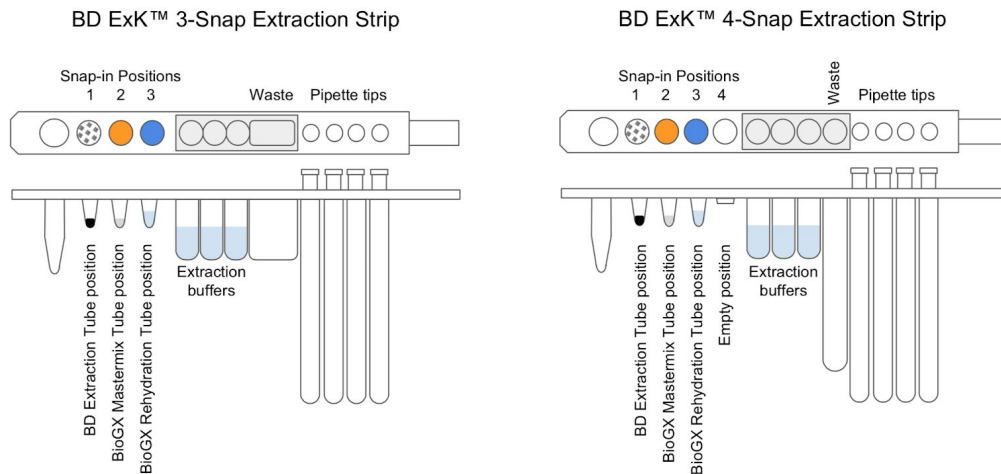

Figure 1 – Diagram of BD MAX™ ExK™ 3-snap and 4-snap Unitized Reagent Strips
4. Snap one BD MAX™ ExK™ DNA-2 Extraction Tube into position 1 (Snap-in 1) of each Unitized Reagent Strip. (See Figure 1)